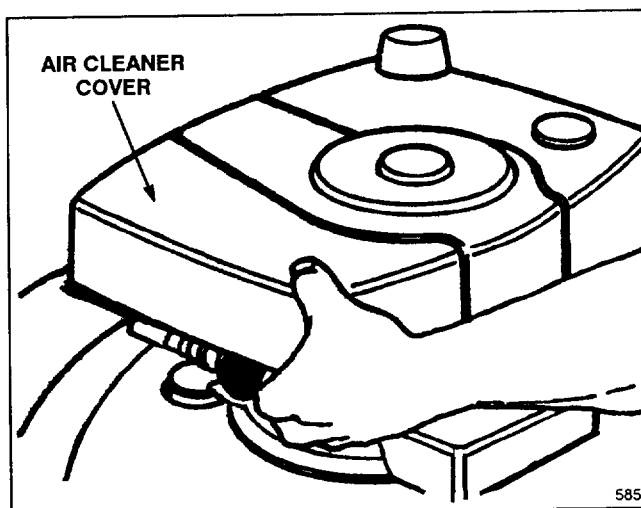

Figure 5
5. Remove the air cleaner cover (Fig. 5).